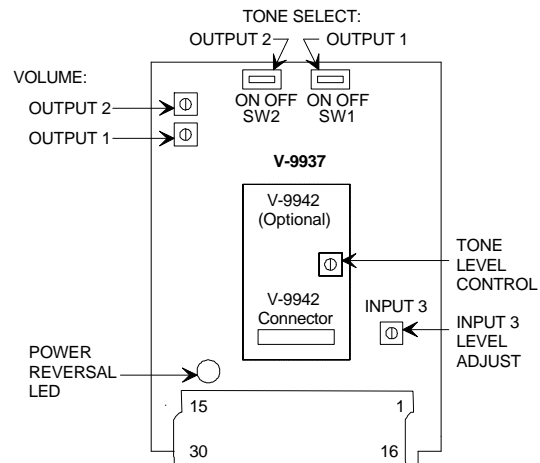

FIGURE 4 - LOCATION OF SWITCHES AND CONTROLS
Refer to Figure 4 for location of volume controls. Test the system and adjust the controls as follows:
- ___ 5. Referring to Figure 4, set the volume control on the V-9942 to approximately 1/2.
- ___ 6. Set the tone select switches (Figure 4) to determine which outputs will receive tones (OFF: No tones; ON: Tones).